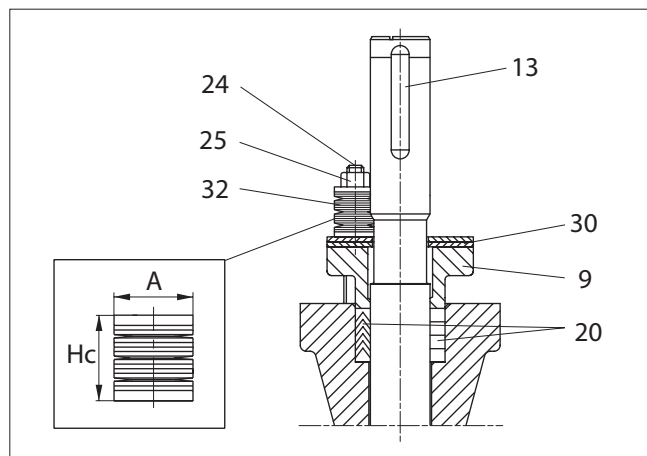
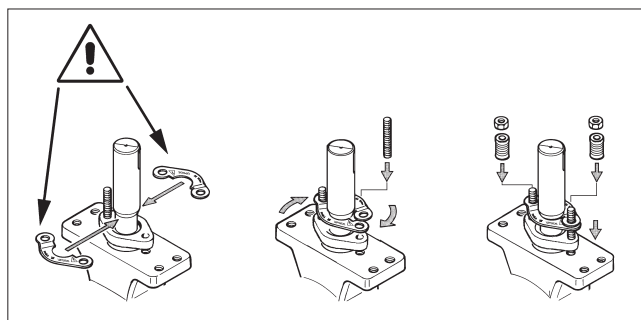

Fig. 19 Gland packing, RE/RE1
Fig. 20 Installing the retainer plates
In gland packings, tightness is ensured by the contact between the gland follower and the packing rings. See Fig. 19.
- Remove the key (13).
- Remove the hexagon nuts (25), disc spring sets (32), one stud (24), retaining plates (30) and gland follower (9).
- Remove the packing rings (20) from around the shaft using a knife or some other pointed instrument without scratching the surfaces.
- Place the new packing rings (20) over the shaft (11). The gland follower may be used for pushing the rings into the counterbore. Do not damage packing rings in the shaft keyway. See Fig. 19.
- Deform the packing rings first by tightening the gland nuts (25) without disc springs to the torque Tt, see the value from Table 2.
- Remove the gland nuts and one stud. Mount the retaining plates (30) with the text UPSIDE on top and the removed stud and place the disc spring sets (32) on the gland studs. Tighten the nuts (25) so that the disc springs are compressed to the height Hc, see Table 2. Lock the nuts with locking compound e.g. Loctite 221. See Fig. 20.